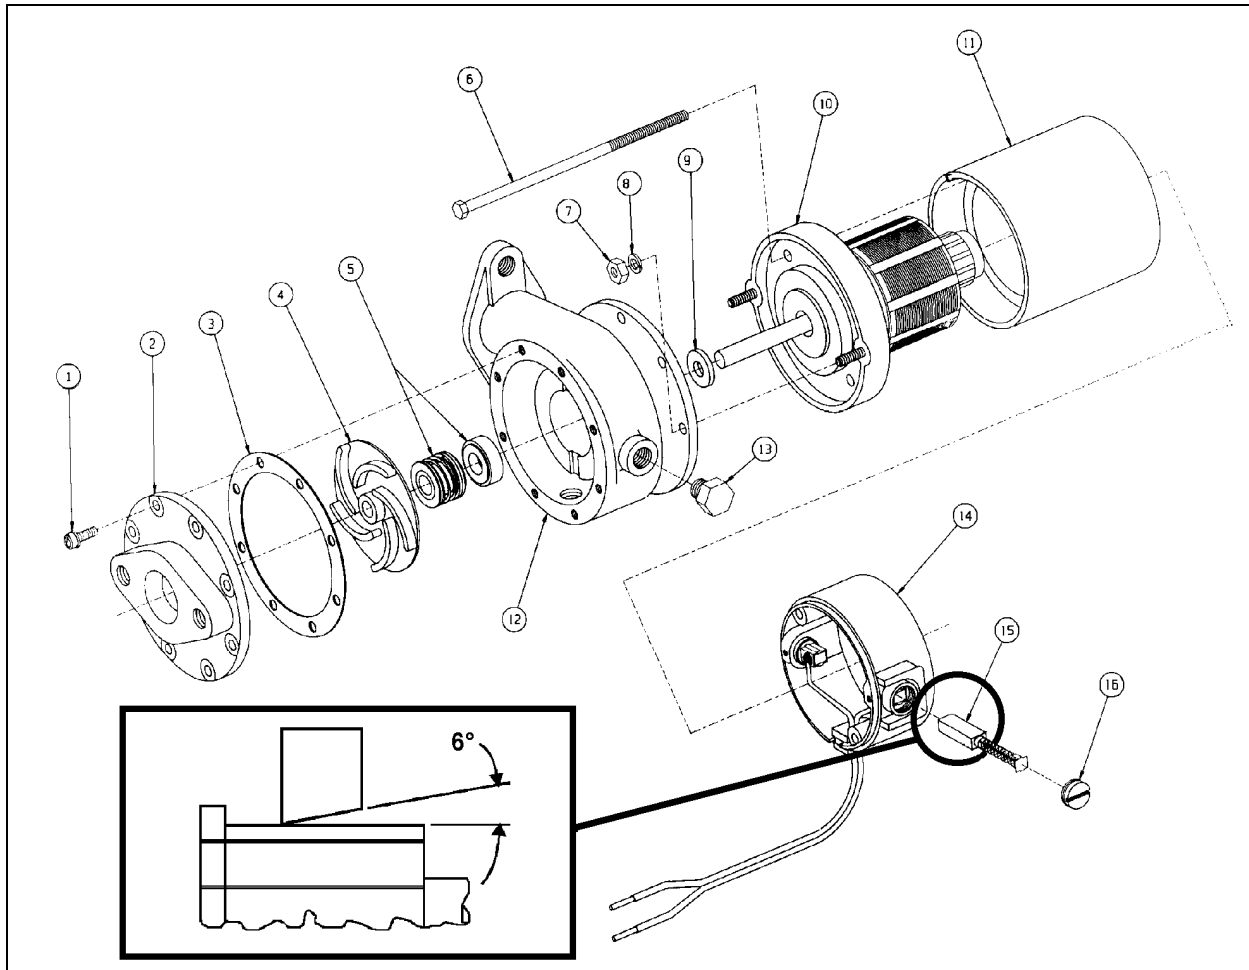

FIGURE 45: WATER RECIRCULATING PUMP
This vehicle is provided with a water recirculating pump which is located in the HVAC compartment (Fig. 45) or on the ceiling of the spare wheel compartment for VIP converted vehicles equipped with a small A/C. The water recirculating pump consists of a centrifugal pump and an electric motor which are mounted on a common shaft in a compact assembly.
Refer to figure 45
- New brushes have a six- (6) degree angle. The brush should always be inserted so that the angle is open away from the pump end of the assembly (inset, Fig. 45)
Refer to figure 45.